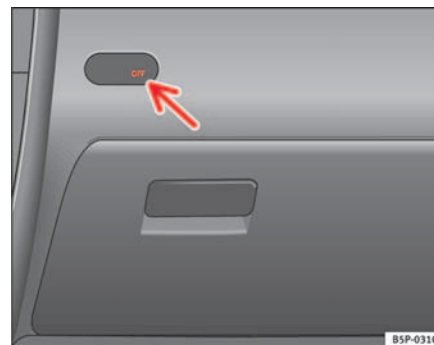

Fig. 27 Warning lamp for deactivated passenger airbag in centre console
- Check that the warning lamp “AIRBAG OFF” in the instrument panel ⇒ fig. 27 remains lit when the ignition is switched on ⇒ .
⇒ page 44, fig. 27 *not* light up when the ignition is switched on